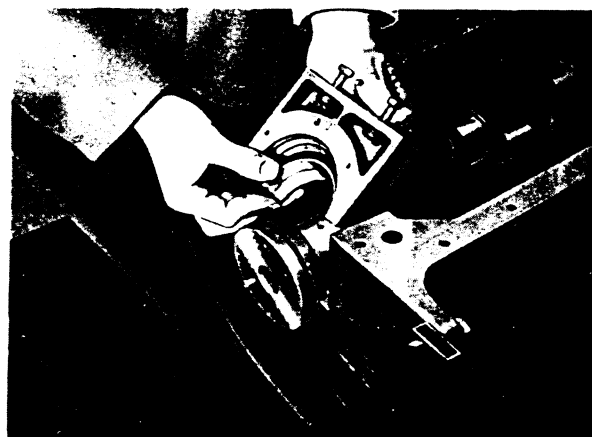

FIG. 44
7. Remove rear main bearing cap with liner—2 set screws with lock washers. Withdrawal of cap is facilitated if 2 sump set screws are positioned in cap, as shown in Fig. 44, so that they can be pulled whilst tapping cap with hide faced hammer. Do not strike oil seal drain pipe.